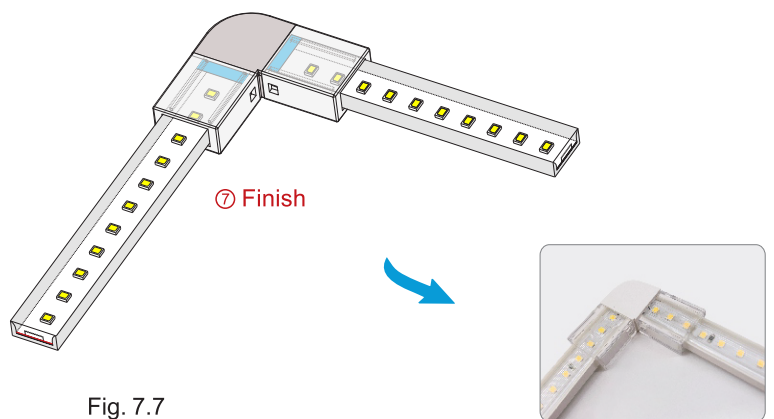

Fig. 7.7
- Fig. 7.7 — The complete assembly